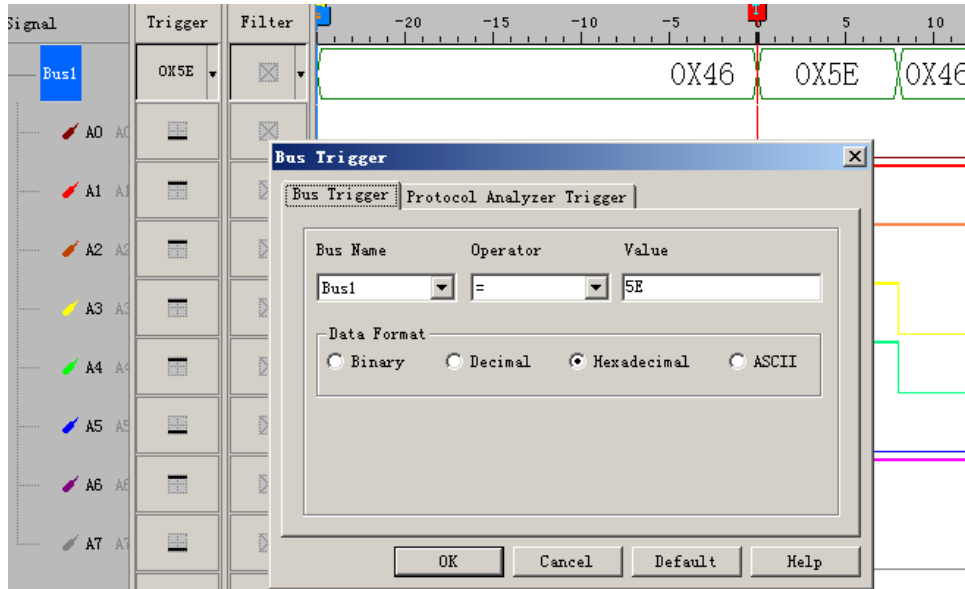

Fig 4-30 – Bus Trigger Setup
Step4. Click **Run** and activate the signal from the tested board to the system to get the result as shown in Fig 4-30.